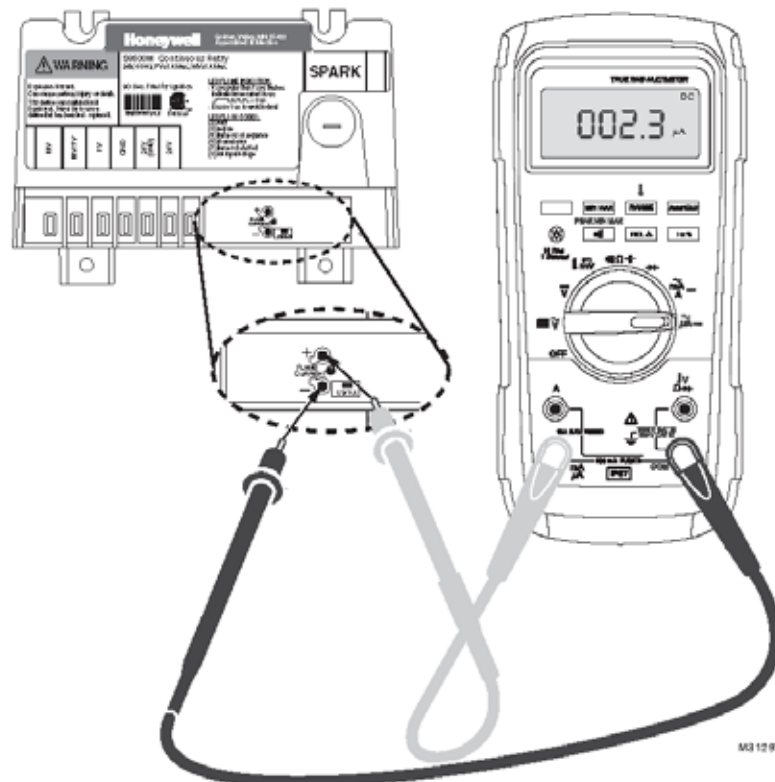

Figure 17: Measuring Pilot Flame Current with Micro-ammeter
See Figure 17 “Measuring pilot flame current with micro-ammeter”.
1. Pilot flame current in micro amps can be measured using any standard micro-ammeter by inserting the meter probes into the module holes labeled FLAME CURRENT as shown in Figure 17.